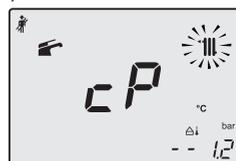

Fig. 9.25
- Press key 18 to vary the output in chimney sweep mode: when the LCD display displays the letters **cP** that alternate with the heating water temperature value (e.g. **78**), the "chimney sweep function" is at maximum (eventually range rated) output in heating mode (Fig. 9.25).